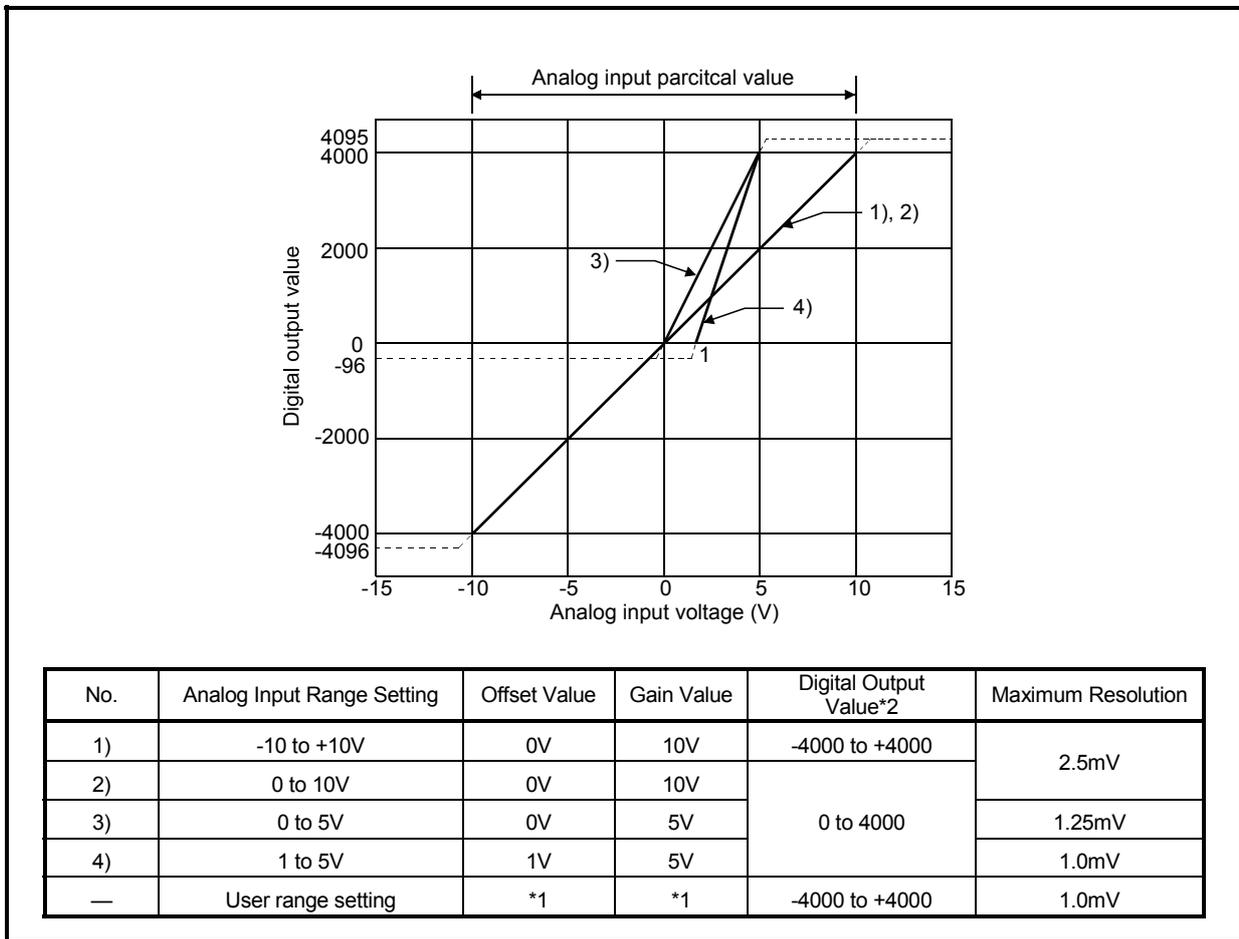

Fig. 3.1 Input characteristics of ST1AD2-V
<p>(1) Within the analog input and digital output scopes of each input range, the maximum resolution and accuracy are within the performance specification range. Outside those scopes, however, they may not fall within the performance specification range. (Avoid using the dotted line part in Fig. 3.1.)</p> <p>(2) Do not input more than $\pm 15V$. The element may be damaged.</p> <p>(3) Set the offset/gain values for the user setting range *1 within a range in which the following conditions are satisfied.</p> <ul style="list-style-type: none">(a) (Setting range): -10 to 10V(b) (Gain value) > (Offset value)(c) (Gain value) – (Offset value) $\geq 4V$ <p>If condition (b) is not satisfied, ERR.LED turns on, the value will not be written to the module.</p> <p>When the setting is outside the condition in (c), conversion is made but the resolution is within the maximum resolution range of the performance specifications.</p> <p>(4) When an analog value that exceeds the range for the digital output value *2 is entered, the digital output value will be fixed at the maximum or minimum value.</p> <ul style="list-style-type: none">• For 0 to 4000, the digital output value is within the range -96 to 4095.• For -4000 to +4000, the digital output value is within the range -4096 to 4095.
<p>(1) Within the analog input and digital output scopes of each input range, the maximum resolution and accuracy are within the performance specification range. Outside those scopes, however, they may not fall within the performance specification range. (Avoid using the dotted line part in Fig. 3.1.)</p> <p>(2) Do not input more than $\pm 30\text{mA}$. The element may be damaged.</p> <p>(3) Set the offset/gain values for the user setting range *1 within a range in which the following conditions are satisfied.</p> <ul style="list-style-type: none">(a) (Setting range): 0 to 20mA(b) (Gain value) > (Offset value)(c) (Gain value) – (Offset value) $\geq 16\text{mA}$ <p>If condition (b) is not satisfied, ERR.LED turns on, the value will not be written to the module.</p> <p>When the setting is outside the condition in (c), conversion is made but the resolution is within the maximum resolution range of the performance specification.</p> <p>(4) When an analog value that exceeds the range for the digital output value *2 is entered, the digital output value will be fixed at the maximum or minimum value.</p> <ul style="list-style-type: none">• For 0 to 4000, the digital output value is within the range -96 to 4095.